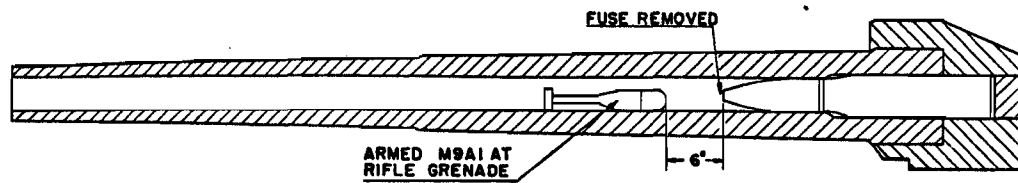

FIGURE 12.—Demolition by means of M9A1 antitank rifle grenade.
- (1) Tube, breech, and recoil mechanism.
- (2) Power equipment.
- (3) Carriage.
- (4) Sights and observation instruments.
- (5) Plotting room equipment.
- (6) Ammunition.
- (7) Fire control and observation stations; ammunition magazines.
b. Demolition by unfuzed HE shell and either M9A1 AT grenade or M6 AT rocket.—Remove the recoil cylinder filling and vent plugs and elevate the gun slightly to allow the recoil oil to drain. It is not necessary to wait for the reserve oil to drain completely before firing the piece. Lay an armed (*safety pin removed*) M9A1 AT grenade, HE, or M6 AT rocket in the tube about six inches in front of an unfuzed, boosted, HE shell (see fig. 12). Fire the gun using a lanyard at least 100 feet long. The person firing the piece should